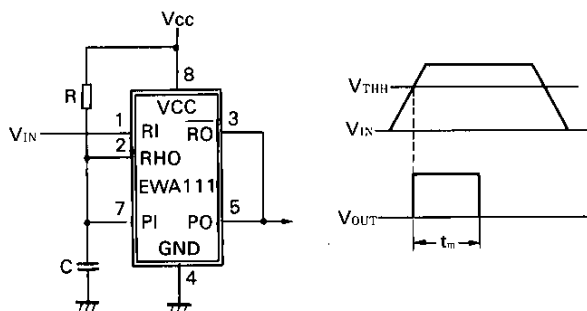
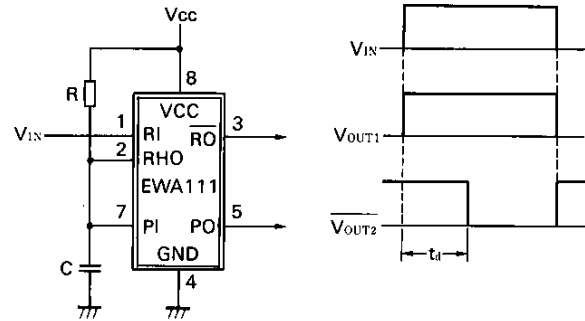

Fig. 12 Monostable multivibrator circuit
Fig. 13 Delay circuit ①
With the EWA111, a monostable multivibrator circuit with an accurate input threshold voltage can be created. Figure 12 shows an example of such a monostable multivibrator circuit. The output pulse width,  $t_m$ , can be set easily using resistor  $R$  and capacitance  $C$ . Calculate it using formula (11).
In the monostable multivibrator circuit shown in Fig. 12, disconnect  $\overline{RO}$  output and PO output of the EWA111 to obtain a delay signal  $[V_{OUT2}]$  from the PO output terminal as shown in Fig.13. The delay time,  $t_d$ , can be set free with resistor R and capacitance C. Calculate it using formula (11).